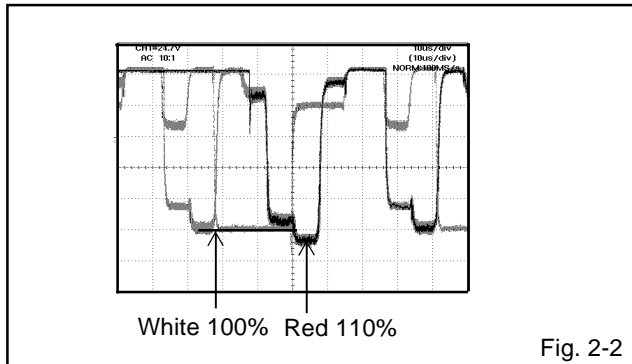

Fig. 2-2
7. Press the VOL. UP/DOWN button on the remote control until the red color level is adjusted to $110 \pm 10\%$ of the white level. **(Refer to Fig. 2-2)**